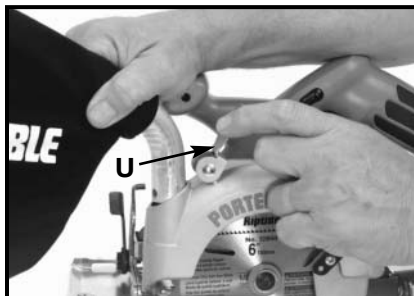

Fig. 19
1. Swing open the exhaust cover (U) Fig. 19 and clean out any accumulated sawdust.